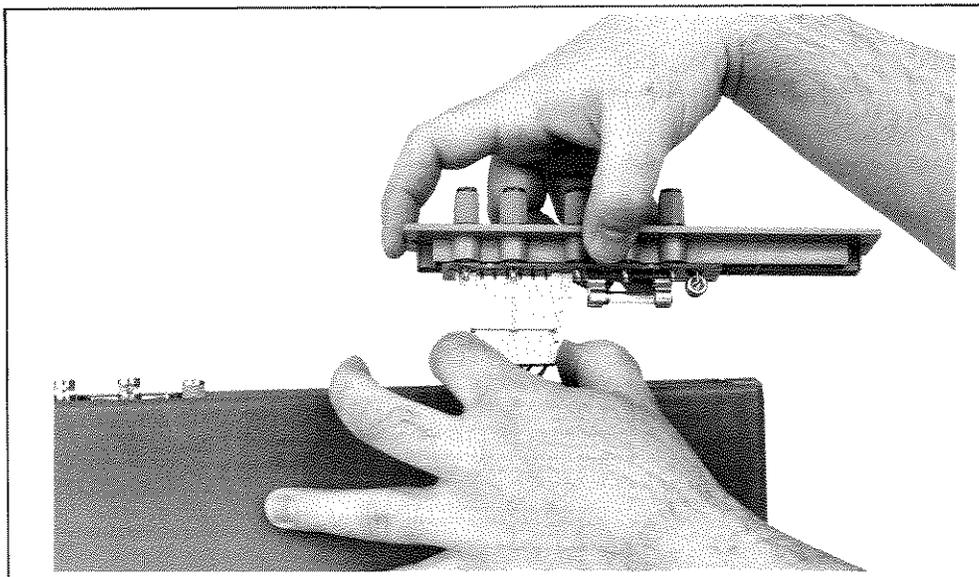

Figure 5-1. Disconnecting the Wiring Harness
4. Depress the release levers on either side of the wiring harness connector (see Figure 5-1). Disconnect the connector from the rear terminal assembly by pulling the two apart.
To remove a plug-in card, simply unfold the plastic ears. This releases the locking mechanism and pulls the card away from the mainframe connector. Now, place your index fingers into the holes in the card's metal shield and pull the card from the slot. You can now disconnect the wiring harness (refer to Figure 5-1 for details.)